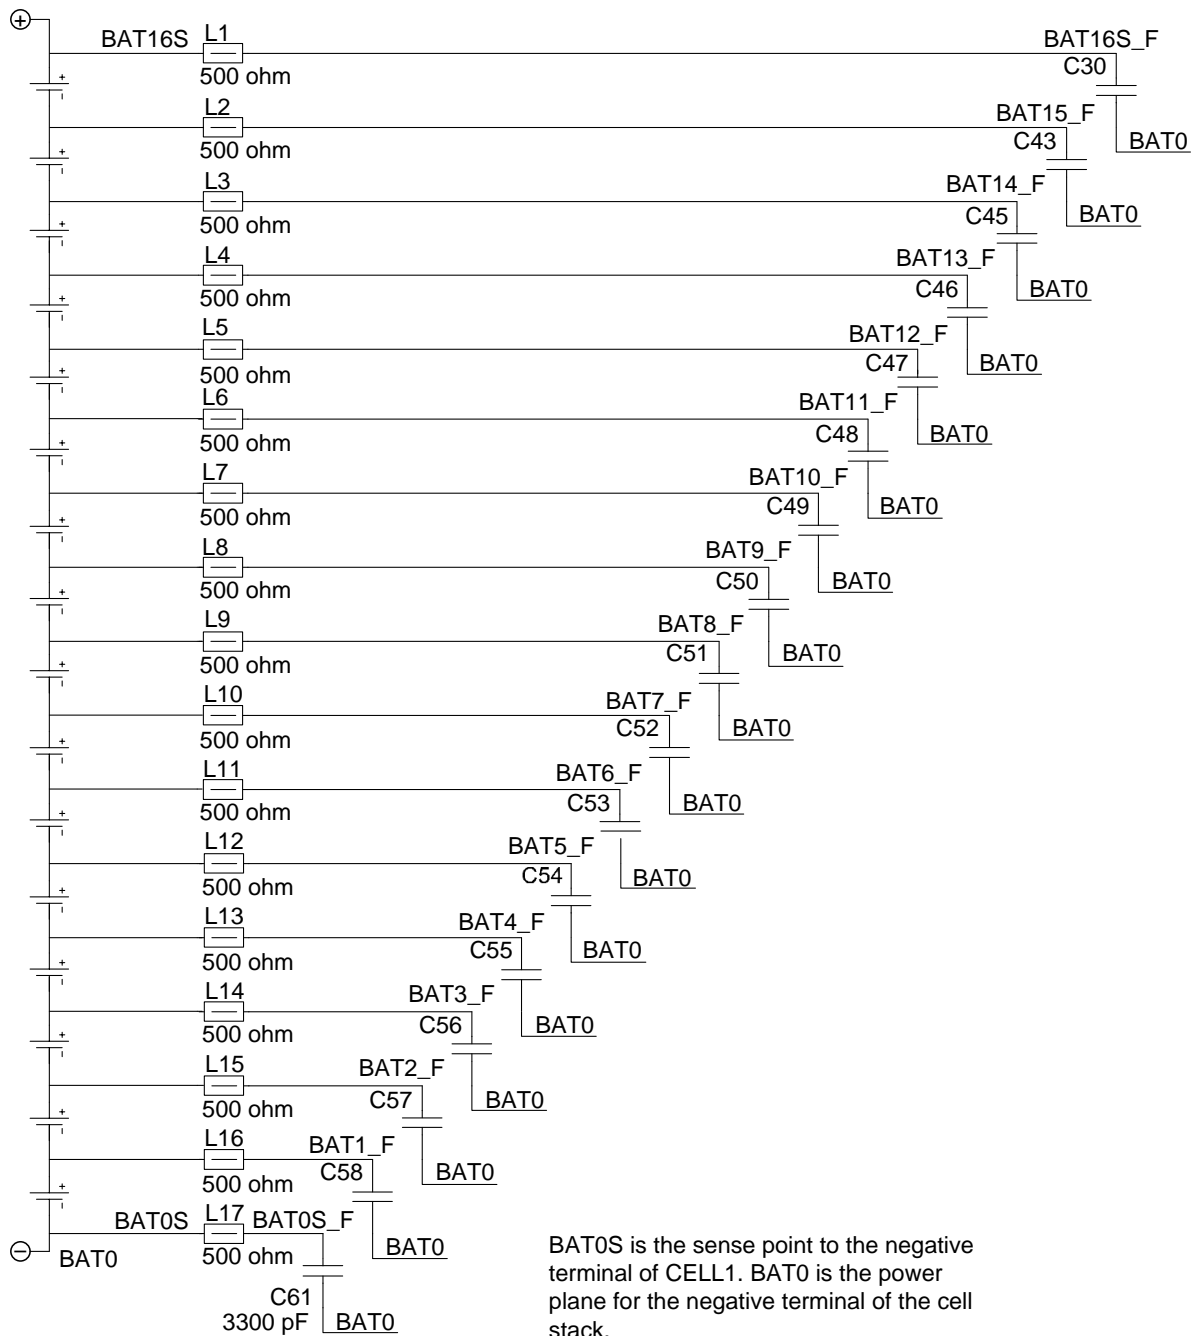

图 29. EMC Filter on Cell Inputs
- Add a 0.0033- $\mu$ F capacitor from each cell input to the battery pack (BAT0 in 图 29). Adjust the value of capacitance to satisfy the PCB layout and field conditions for the application.